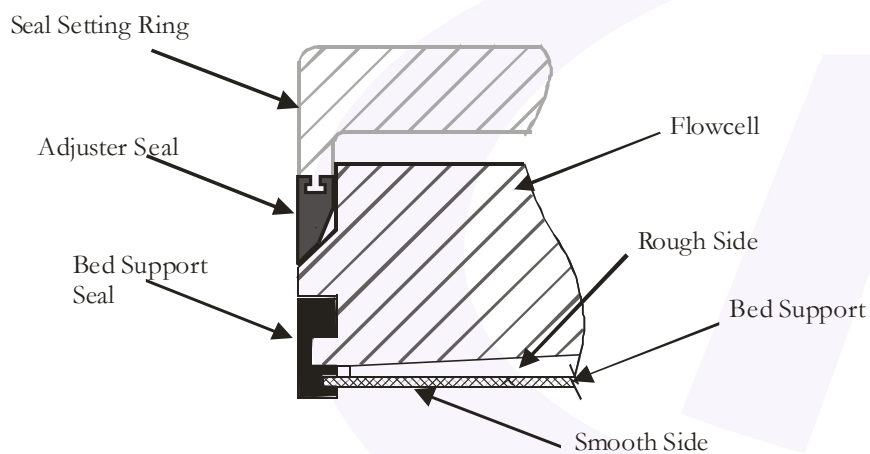
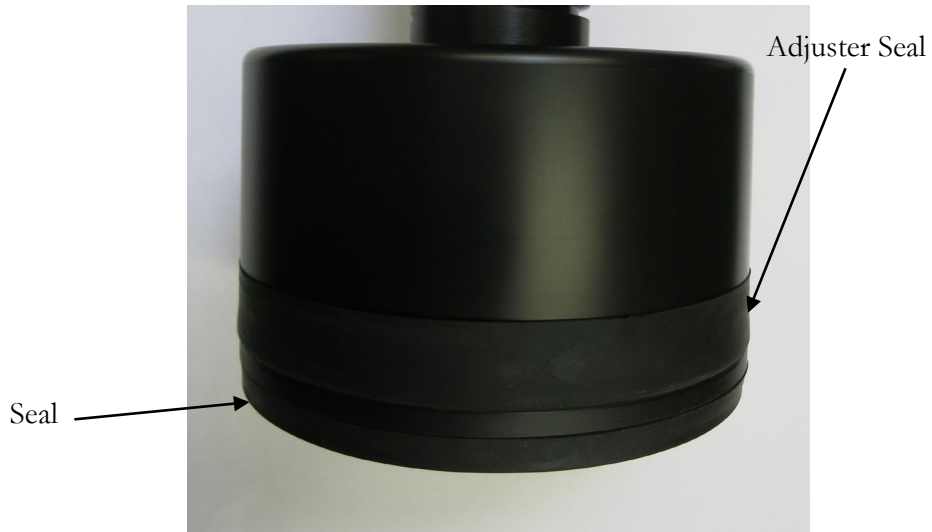

Figure 10: Diagram showing the location of the adjuster bed support.
Figure 11: Photograph showing the location of the adjuster bed support.
A schematic of the adjuster assembly is shown in Figure 10 and a photograph (Figure 11) shows the adjuster assembly correctly assembled.
2. With the rough side facing towards the ribbed flow cell, press the edge of the seal into the location groove on the side of the flow cell. See Figure 10:.
See Figure 11